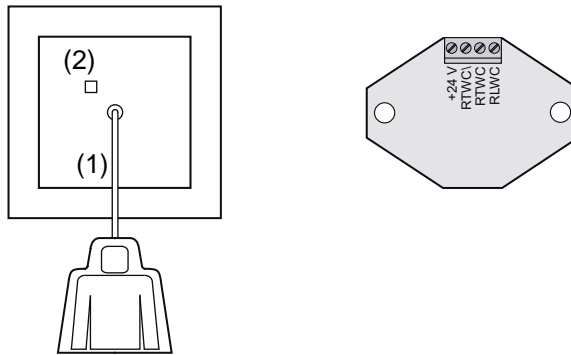
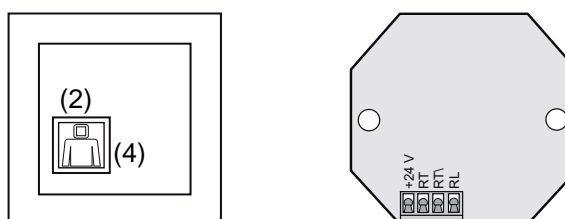

Figure 2: Pullcord push-button cover with frame (left), rear view insert (right)
Figure 5: Call push-button cover with frame (left), rear view insert (right)
- In an emergency situation, pull on the cord of the pullcord push-button (Figure 2, 1) or press the red push-button of the optional call push-button (Figure 5, 4).
The reassurance light (Figure 2/5, 2) will light up.